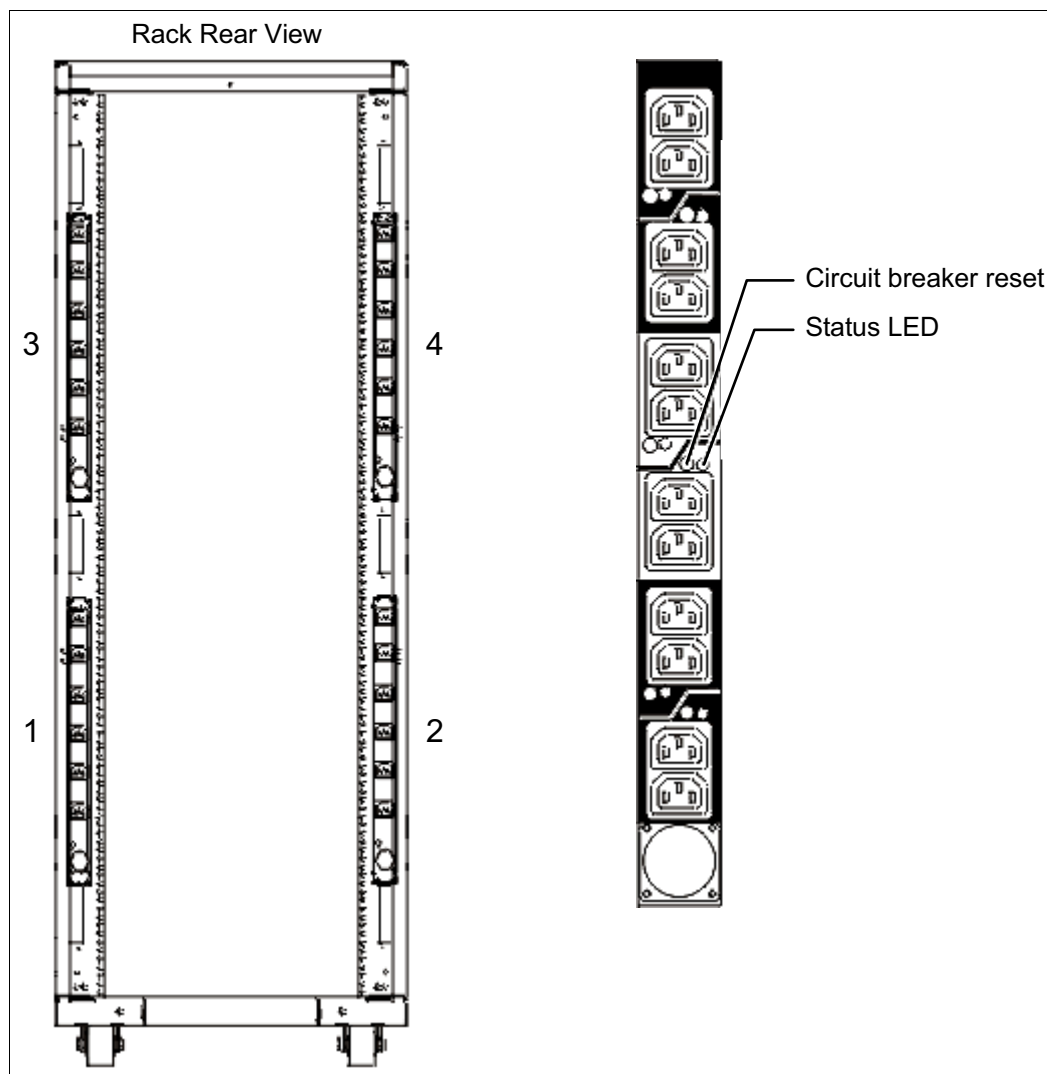

Figure A-2 PDU placement and PDU view
- ▶ Up to four power distribution units (PDUs) can be mounted in the PDU bays (see Figure A-2 on page 52), but others can fit inside the rack. For more information, see “The AC power distribution unit and rack content” on page 51.
Four PDUs can be mounted vertically in the back of the T00 and T42 racks. Figure A-2 shows the placement of the four vertically mounted PDUs. In the rear of the rack, two additional PDUs can be installed horizontally in the T00 rack and three in the T42 rack. The four vertical mounting locations are filled first in the T00 and T42 racks. Mounting PDUs horizontally consumes 1U per PDU and reduces the space that is available for other racked components. When mounting PDUs horizontally, the preferred approach is to use fillers in the EIA units that are occupied by these PDUs to facilitate the correct airflow and ventilation in the rack.